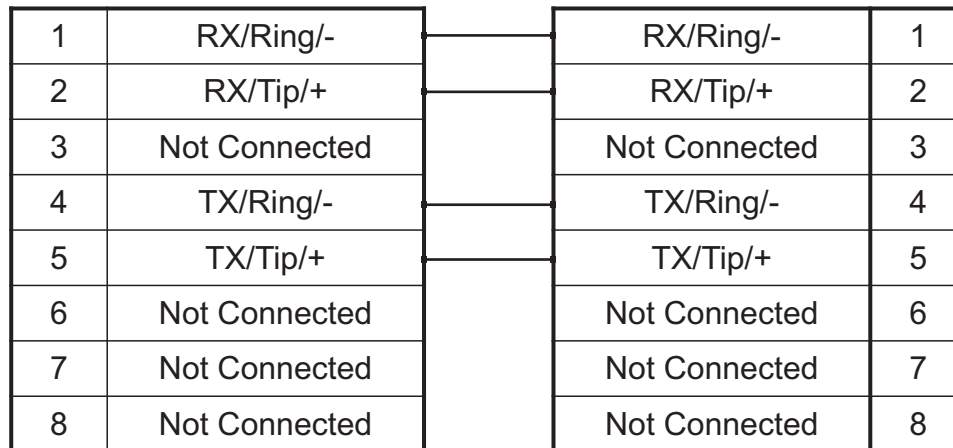

Figure 2.5 RJ48C Wiring Schematic
- Your TMG3200-RJ features 16 modular 8-conductor RJ48C type jacks for connection to T1/E1/J1 lines. You will need one cable for each (T1/E1/J1) interface on the TMG3200. If you are making your own cables, refer to figure 2.5 on page 14 for crossover or straight cable wiring connections.
A TMG3200-RJ with 16 RJ48C type ports enables the connection to T1/E1/J1 lines. The termination impedance is set at 100 ohms for T1 lines and 120 ohms for E1 lines. It is possible to connect an external balun in order to convert to 75 ohms. See figure 2.4 on page 13. If you are making your own cables, refer to figure 2.5 on page 14 for crossover or straight cable wiring connections.